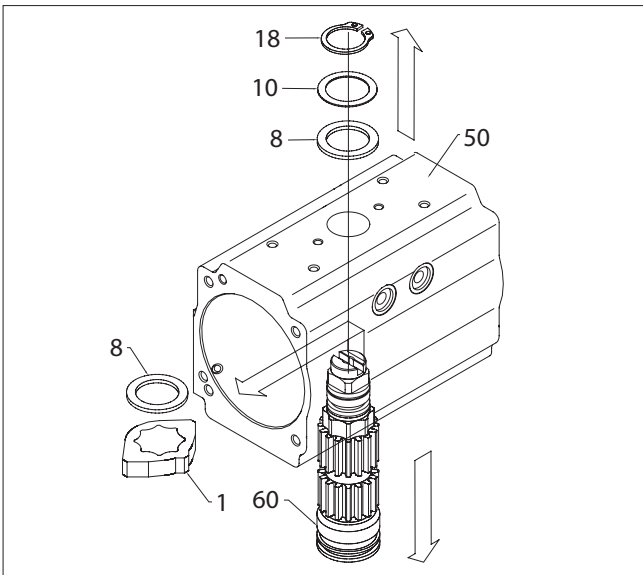

Figure 7.
**5. Drive Shaft (60) and Bearing (6, 7) Disassembly, (Figure 7):**
- A. Remove spring clip (18) carefully. Remove external thrust bearing (8) and thrust washer (10).
- B. Apply downward force to top of drive shaft (60) until it is partially out of the bottom of the body (50) and the octi-cam (1) and internal thrust bearing (8) can be removed. Remove the octi-cam (1) and internal thrust bearing (8). Push the drive shaft (60) completely out of the bottom of the body (50). If the shaft (60) does not move freely, gently tap with a plastic mallet.